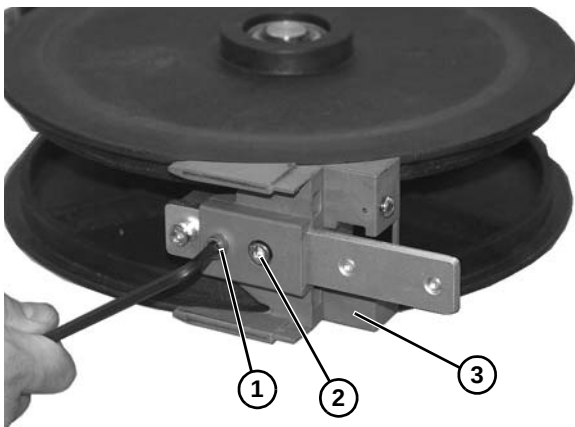

Figure 91
1. Remove socket head screw (**Figure 91, item 1**) and socket head screw (**Figure 91, item 2**) from corner wheel assembly pinch bracket (**Figure 91, item 3**).